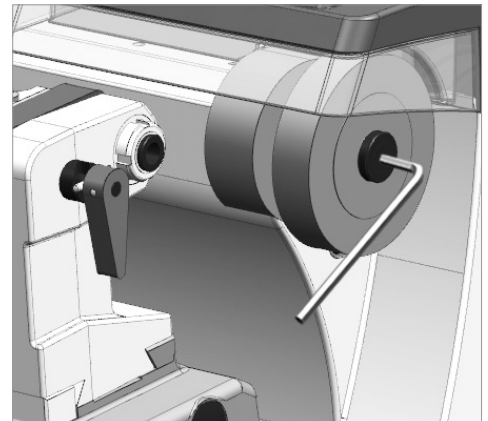

Fig. 41
- 2) Use the lever (Q) to lock the right-hand clamp in the horizontal position.
- 6) Fit a hex key into the brush screw (Fig. 41). Turn the brush clockwise manually and check that the cutter skims the calibration pin in a number of points.